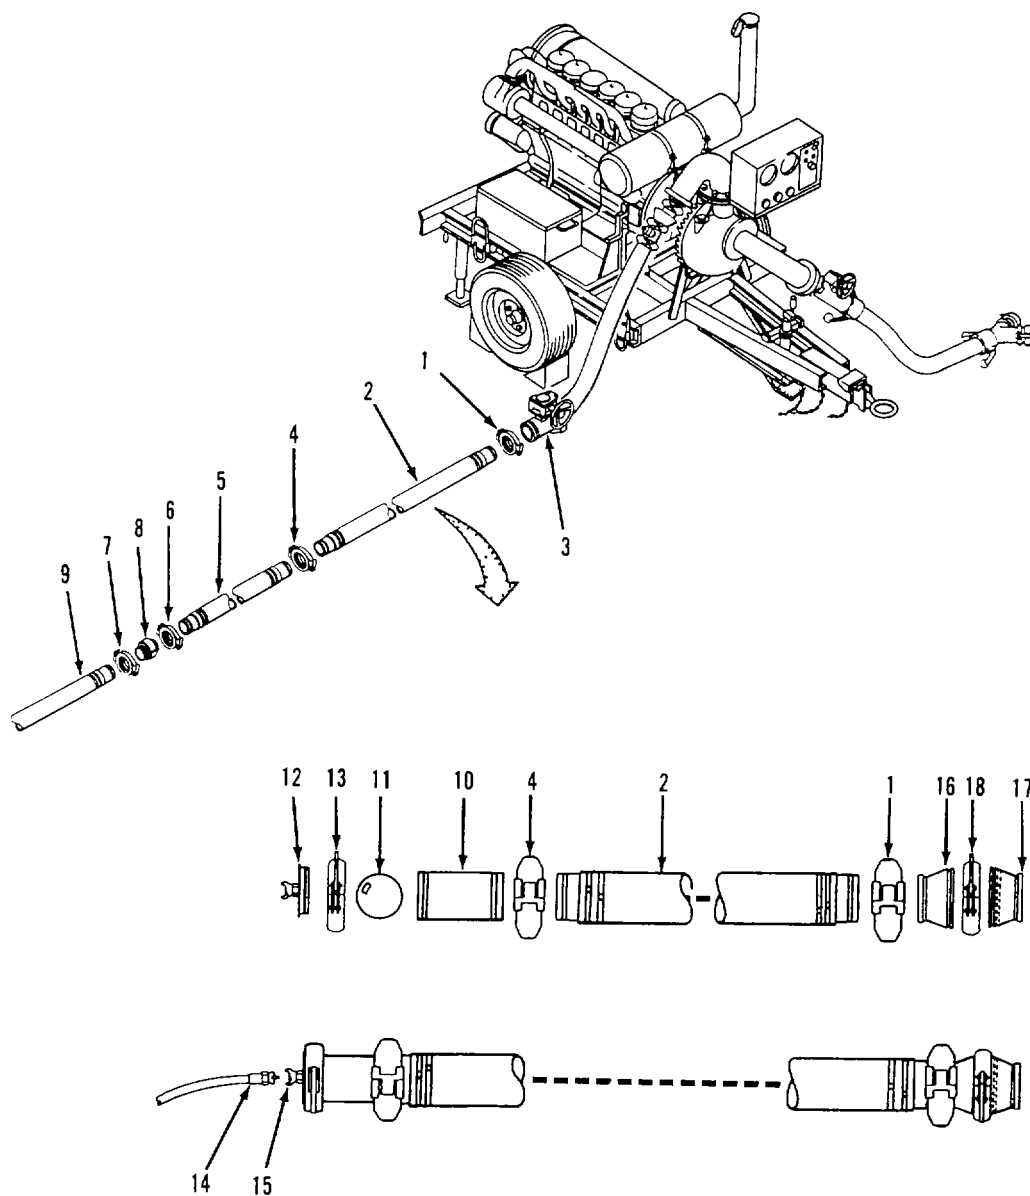
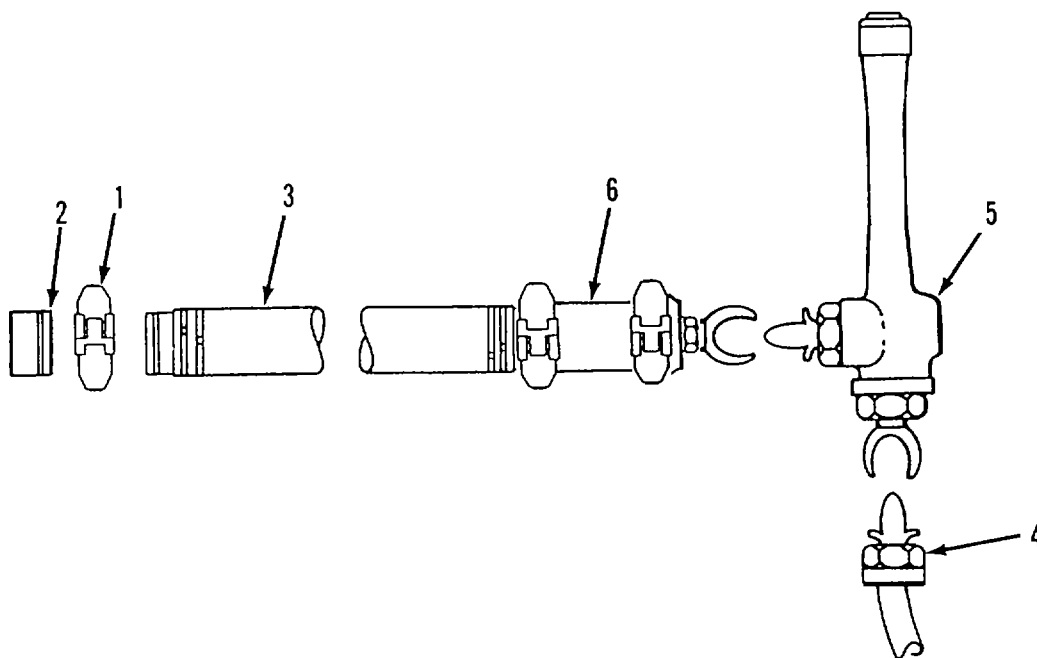

Figure 2-35. Hoseline Purging.
Figure 2-36. Hoseline Evacuation.
(1) Disassembly of the 10-mile hoseline segment requires sufficient tools, equipment and personnel to perform the tasks outlined in the following paragraphs. The displacement and evacuation kit, and the packing kit will be required to pack hoseline segments in the flaking boxes. If a forklift is not available, the lifting sling will be required to load, unload, and stack flaking boxes onto the cargo truck.
(2) When flaking boxes are returned to packing site, stack flaking boxes four high.
*Purging. Refer to figure 2-35.*
- (1) Open all butterfly valves at each pumping station.
- (2) Position air compressor between hoses (2 and 5).
- (3) Remove coupling clamp (1) and disconnect hose (2) from butterfly valve (3) at lead pumping station.
- (4) Remove coupling clamp (4) and disconnect hose (2) from hose (5).
- (5) Remove coupling clamp (6) and disconnect hose (5) from swivel (8).
- (6) Connect nipple (10) to downline end of hose (2) with coupling clamp (4).
- (7) Insert displacement ball (11) into nipple (10).
- (8) Connect ball inlet assembly (12) to nipple (10) with quick disconnect coupling clamp (13).
- (9) Connect air supply hose (14) to air coupling (15) on ball inlet assembly (12).
- (10) At upline end of hose (2), connect 6 inch x 8 inch reducer (16) to hose (2) with coupling clamp (18).
- (12) Pressurize air supply hose (14) to 80 to 90 psi. Displacement ball (11) will be forced through hose (2), displacing any residual water. A sound will be heard when displacement ball reaches ball receiver.
- (13) Shut off air supply when displacement ball (11) enters caged reducer (17).
- (14) Remove quick disconnect coupling clamp (18) and separate caged reducer (17) from reducer (16). Remove displacement ball (11) from caged reducer.
- (15) Remove coupling clamp (1) and separate reducer (16) from end of hose (2).
*Evacuation. Refer to figure 2-36.*
- (16) Connect cap (2) to hose (3) with coupling clamp (1).
- (17) Connect ejector (5) to ball inlet (6).
- (18) Connect air supply hose (4) to ejector (5).
- (19) Pressurize air supply hose (4) to ejector (5).
- (20) Shut off air supply to ejector (5) when hose (3) has collapsed.
- (21) Disconnect air supply hose (4) from ejector (5).
- (22) Disconnect ejector (5) from ball inlet (6).
- (23) Remove coupling clamp (1) and disconnect cap (2) from hose (3).
- (24) Remove coupling clamp (4, figure 2-35) and separate nipple (10) and attached parts from hose (2).
- (25) Repeat steps (3) through (23) for hose (5), except work from upline end of hose to downline end to prevent having to move air compressor.
- (26) Repeat steps (3) through (24) for all remaining downline hoses while removing coupling clamps (7) and swivels (8) from hoses (9) where required.
- (27) Pack evacuation kit components in storage chest.